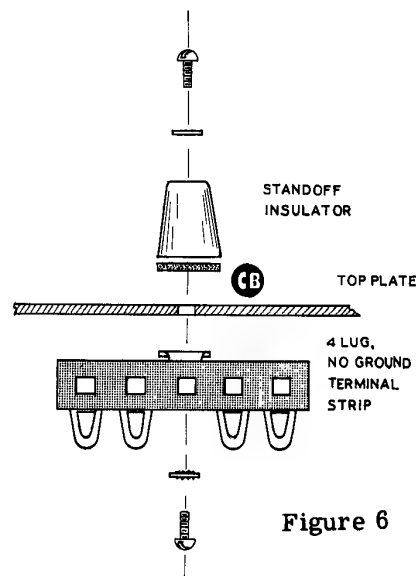

Figure 6
- (✓) Mount a standoff insulator at location CB. Mount the insulator on the top side of the chassis top plate. Place a 4 lug (no ground) terminal strip and a #6 lockwasher under the head of the bottom mounting screw. Orient the terminal strip as shown and tighten securely. Refer to Figure 6.